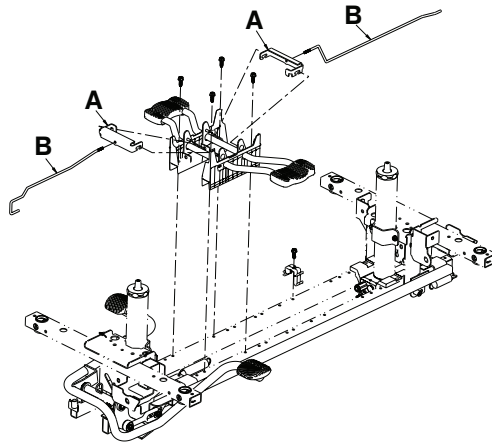

Figure 15 – Adjust the release pedal
2. Using your hand, disconnect the release pedal swivel (A) from the release pedal assembly (Figure 15).